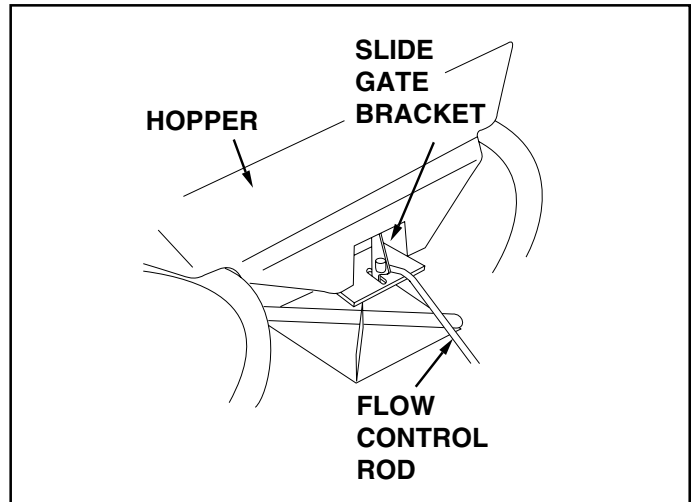

FIGURE 12
- Hook free end of flow control rod through hole in slide gate bracket located near bottom of hopper. See figure 12.